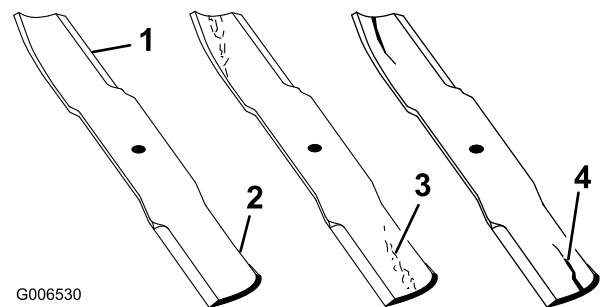

Figure 94
1. Inspect the cutting edges (Figure 94).
4. If you notice any cracks, wear, or a slot forming in this area, immediately install a new blade (Figure 94).